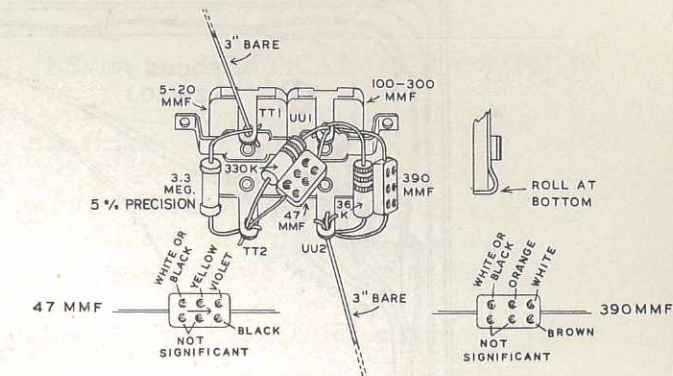

Figure 10
(✓) Identify the dual trimmer assembly by reference to Figure 10. Position the part so that the roll of the trimmer plates is down, as shown in the figure. Connect a 3.3 megohm 5% precision resistor from TT1 (NS) to TT2 (NS).